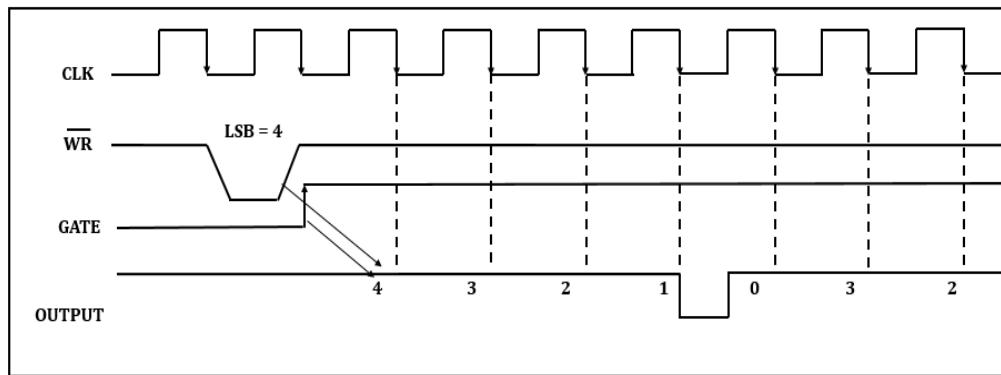

Figure 3.13: Mode 2 Timing Diagram.
- Figure 3.13 shows the Mode 2 Timing Diagram.